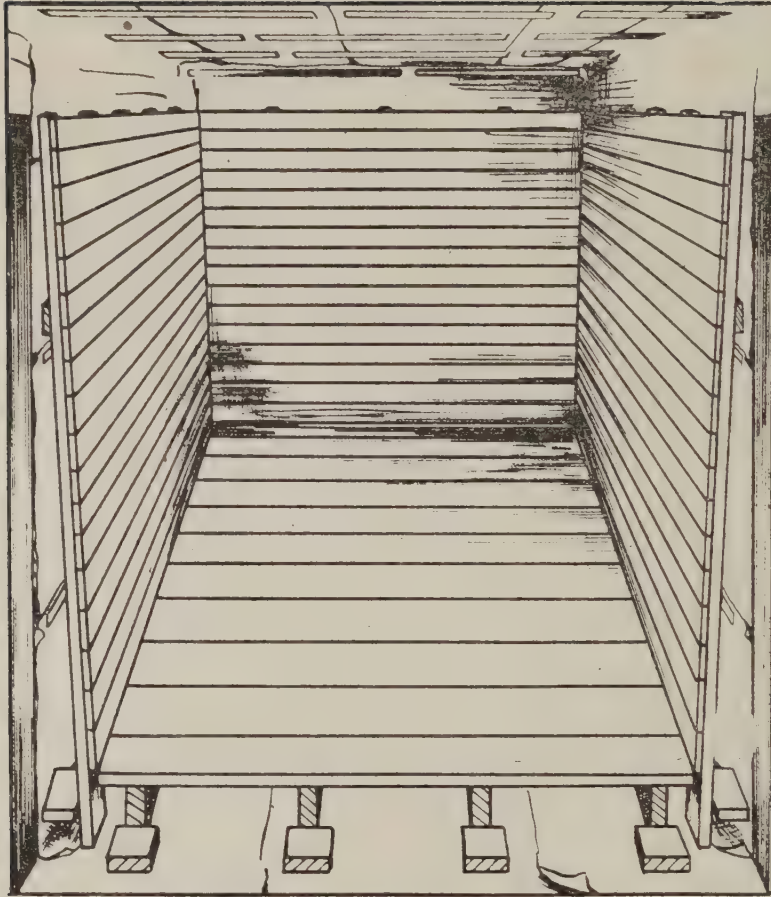

FIG. 10.—First layer of false side wall boards.
11. Nail 15 ft. lengths of the 1 in. boards to the false side wall studding (fig 10). These boards should form a solid, tight, false wall from the false floor to the top of the studding.